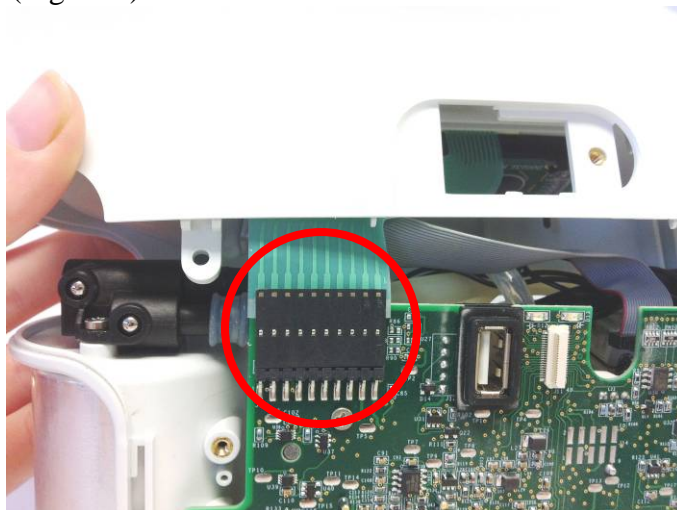

Figure 7: Unplug UIP cable from motherboard
7. Gently pull upward on the user interface panel to lift it about a centimeter off the device, being careful not to pull on the cables that are connected to the user interface panel. With the UIP cable connector exposed on the motherboard, gently unplug the UIP cable from the motherboard (Figure 7).
2. Reconnect the UIP cable to the motherboard (Figure 7).